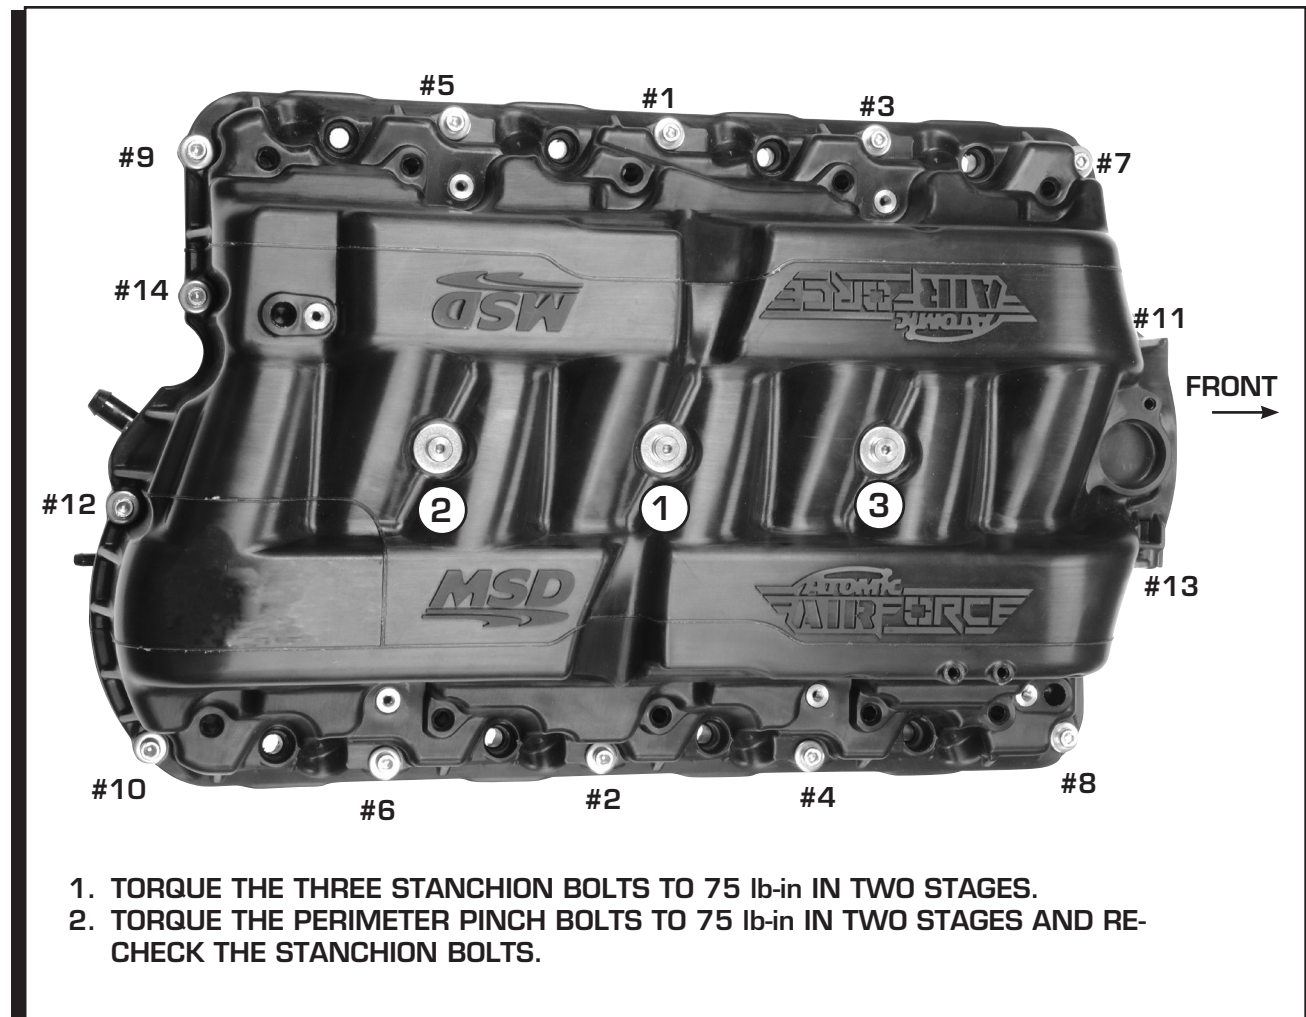

Figure 8 Intake Upper Shell - Torque Pattern.
2. Begin the torque process starting with the three top stanchion shoulder bolts in the order shown in Figure 8. Use two passes on the three shoulder bolts to achieve 75 in-lb.
3. Torque the 14 perimeter pinch bolts in two stages to achieve 75 in-lb. Follow the sequence shown in Figure 8 on page 5. Re-confirm the three stanchion shoulder bolts torque values as well.